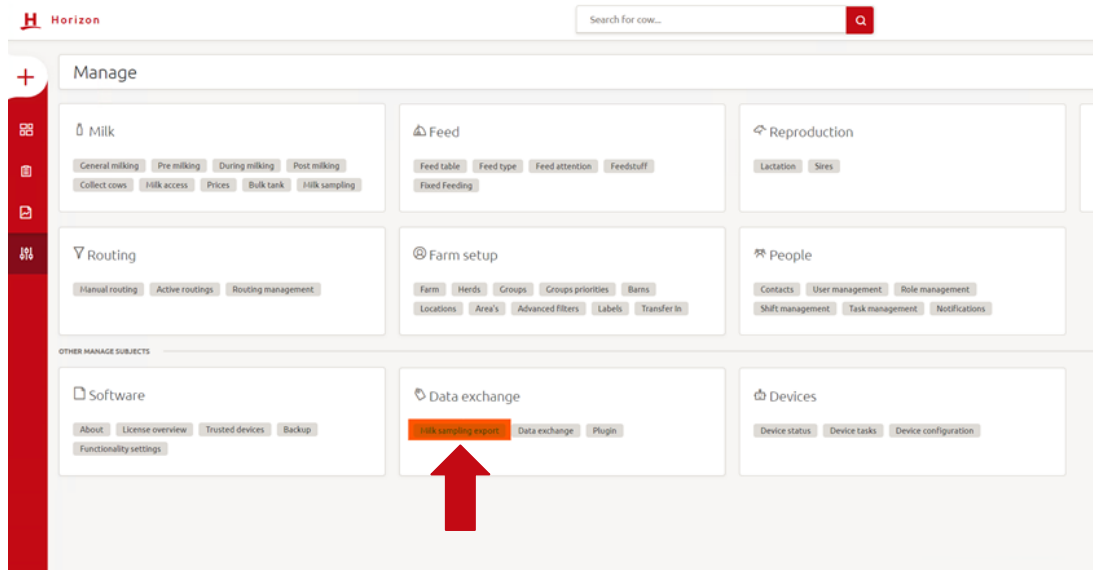

Figure 44. Select Milk sampling export
2. Then click on Milk sampling export see figure 44